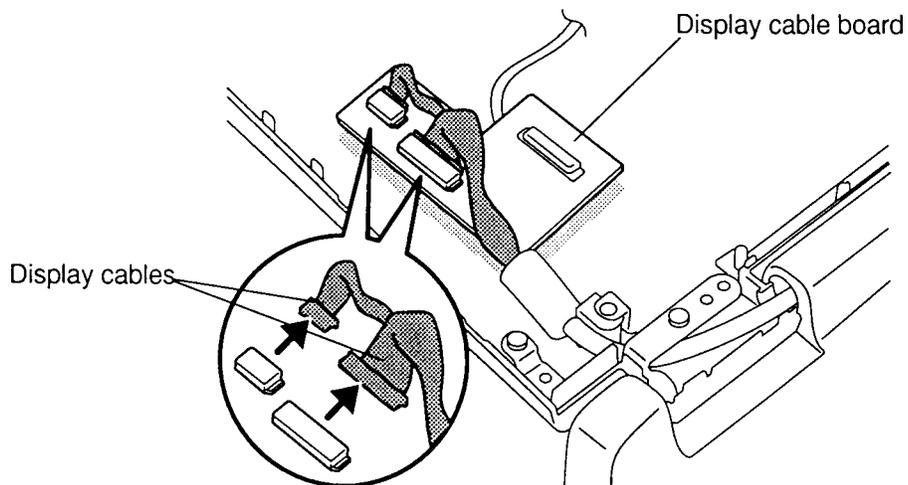

Figure 4-38 Removing the display cable board
7. Disconnect the **display cables** from the **display cable board** to remove the board (figure 4-38).
1. Connect the **display cables** to the display cable board (figure 4-38).